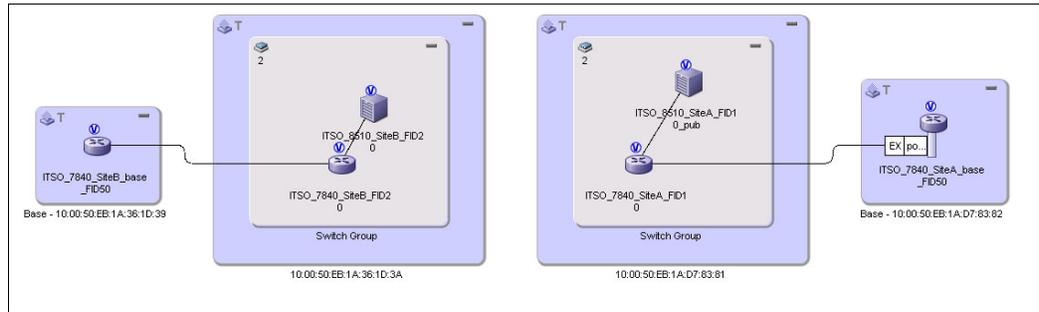

Figure 6-47 Fabric overview after routing configuration
5. After these steps, the new fabric graph is shown (Figure 6-47).